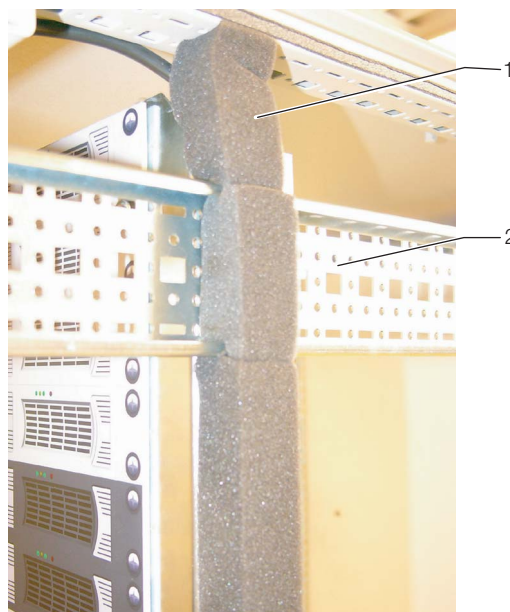

Fig. 24: Foam strip on a server rack support
- Fasten the broader (Model No. SK 3301.370/3301.320) of the two foam strips from the Liquid Cooling Package accessories from outside onto one of the front supports of the server rack (cf. Fig. 24). Make sure to install this strip on the side of the server enclosure onto which the Liquid Cooling Package is to be bayed.
- Fasten the smaller (Model No. SK 3301.380/3301.390) of the two foam strips from the Liquid Cooling Package accessories from outside onto one of the front supports of the server rack (cf. Fig. 24). Make sure to install this strip on the side of the server enclosure which will again be sealed by a side panel.